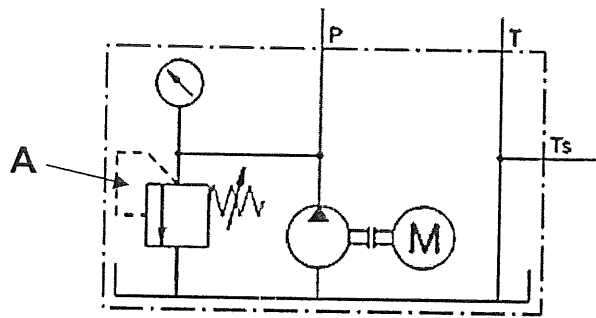

Figure 2
- a) List five (5) components to convert from electrical to mechanical then to hydraulic energy (5 marks)
- b) Figure 2 shows the symbol of hydraulic power pack.